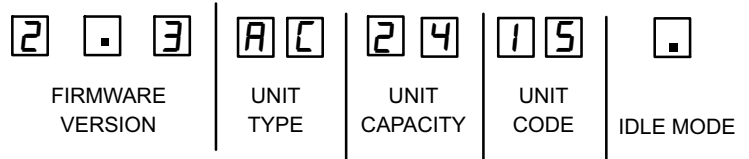

Figure 16. Outdoor Control 7-Segment Unit Status Displays
If the single-character display shows three (3) horizontal lines, the unit selection code needs to be programmed. Press and hold the button until the P U menu option is displayed, release button. The single-character display displays the selected mode per example in figure 16 on page 36. When the desired unit selection code appears, press and hold the button until it stops flashing, then release.